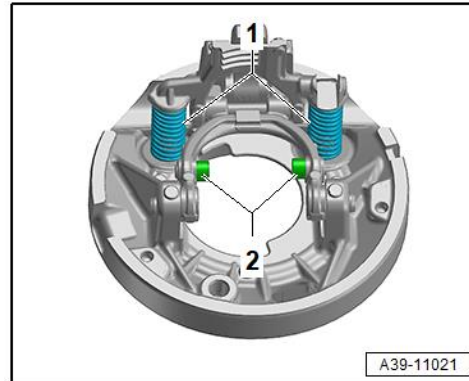

Figure 19. Bushing and spring installation.
13. Apply a small amount of assembly grease to the pins for the bushing and install the new bushings from the repair kit (Figure 19, position 2).
Reinstall the springs (Figure 19, position 1).